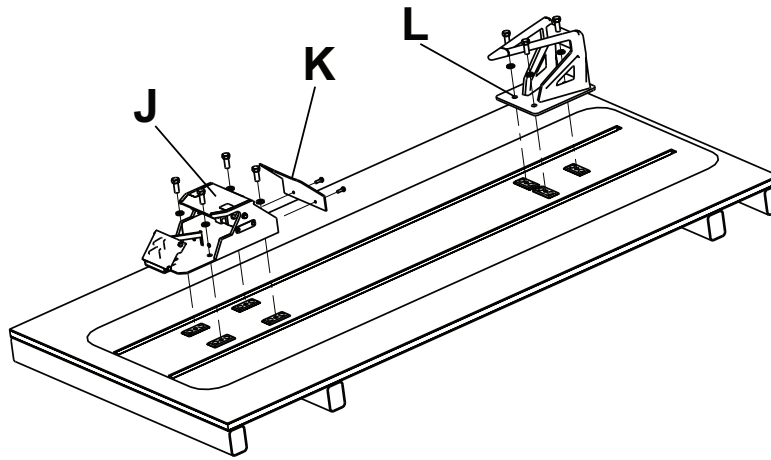
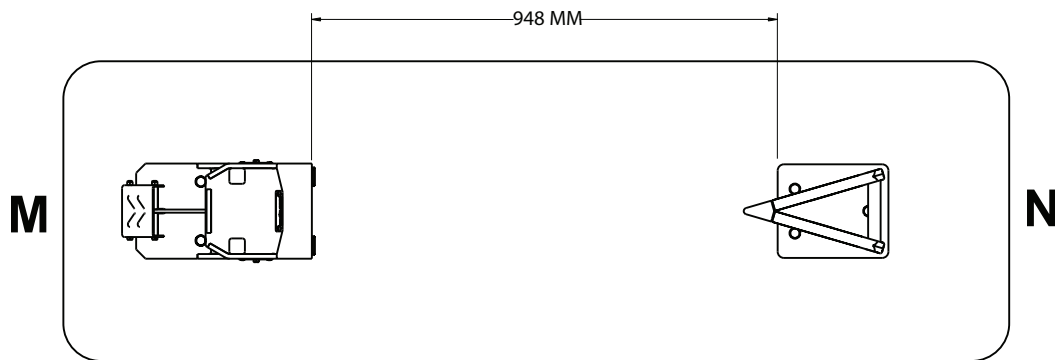
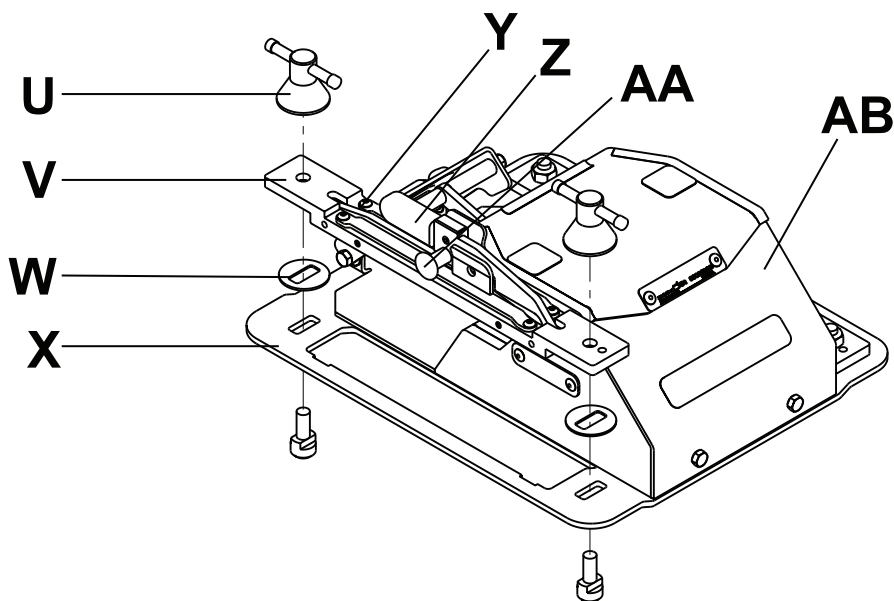

Figure 5 – Head end and foot end fastener - floor plate installation
Figure 6 – Fastener spacing
Figure 9 – Assemble the foot end fastener
1. Remove the back cover (K) from the foot end fastener (J) (Figure 5).
4. Mount the head end fastener (L) on the three floor plates and secure with three 1/2"-13 hex head cap screws and lock washers.
5. Make sure that you space the head end fastener and foot end fastener 948 mm apart (Figure 6).
10. Make sure that you space the head end fastener and foot end fastener 948 mm apart (Figure 6).
1. Position the four supplied lock down washers (6388-001-080) (W) between the track mounted fastener (**NMI** adaptor) (V) and the foot end fastener lock down base plate (X) (Figure 9).
2. Loosely tighten the wing nuts (U) to attach the **NMI** adaptor (V) to the foot end fastener lock down base plate (X) (Figure 9).
5. Pull the pin (AA) to unlock the **NMI** adaptor (V) of the foot end fastener (AB) (Figure 9).
6. Pull the handle (Z) and then the wedge (Y) up to open.
7. Align the foot end fastener (AB) on the floor track.
8. Fold the wedge (Y) and then the handle (Z) down to lock the **NMI** adaptor (V) to the floor track.
9. Tighten the wing nuts to attach the **NMI** adaptor (V) to the foot end fastener lock down base plate (X).
10. Repeat steps 5-7 to install the head end fastener on the floor track (Figure 5).
11. Make sure that you space the head end fastener and foot end fastener 948 mm apart (Figure 6).